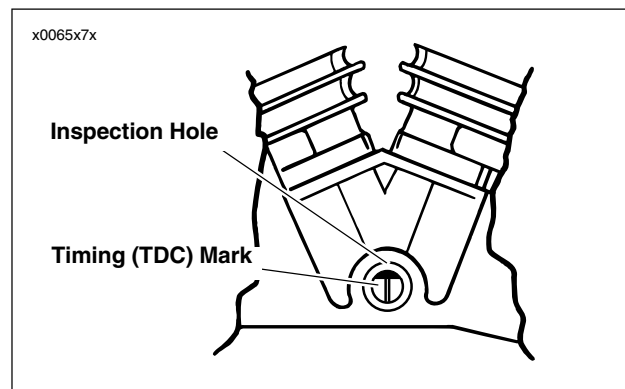

Figure 1-48. TDC Mark
- b. See Figure 1-48. Rotate rear wheel until TDC mark is centered in timing inspection hole.